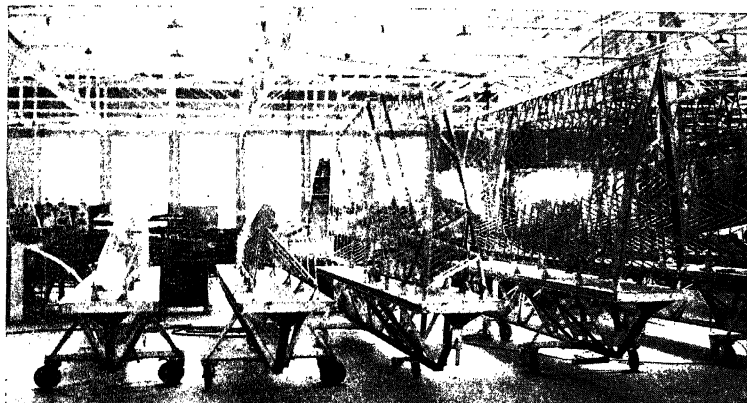

FIG. 14.—How trailing edges are handled at San Diego. (*Official U.S. Navy Photograph.*)
**Handling Wing Sections.**—Handling wing sections, both during their construction and afterward, requires care and special equipment. Several sections are seen in Fig. 14, with wing structures of various kinds. These